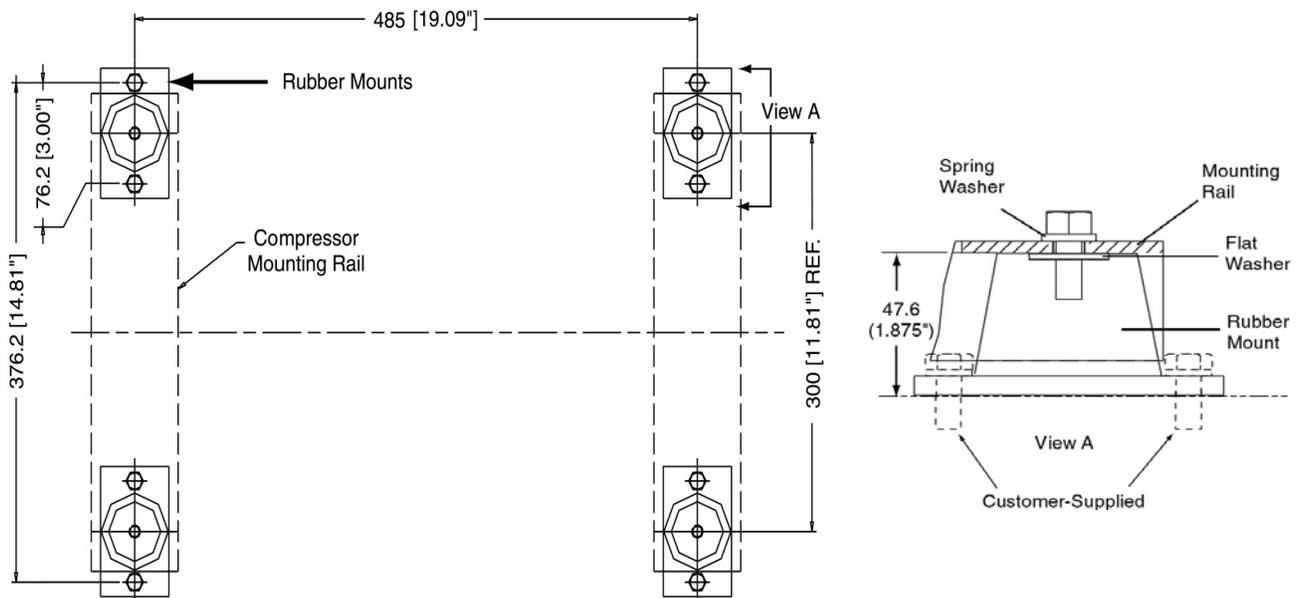

Figure 63 Compressor Mounting Details
1. Following the footprint dimensions given in Figure 63, drill two 9mm (11/32") holes in the base frame for each rubber mount.